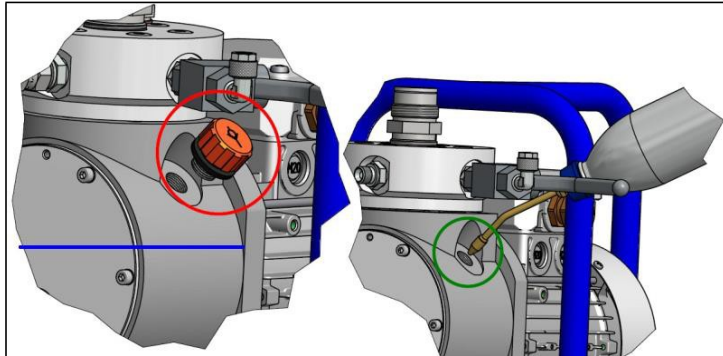

Fig. 8.1.1
1. (Fig.8.1.1) Unscrew oil filler neck and determine the oil level by visual inspection. The oil level should be within range of the blue line.